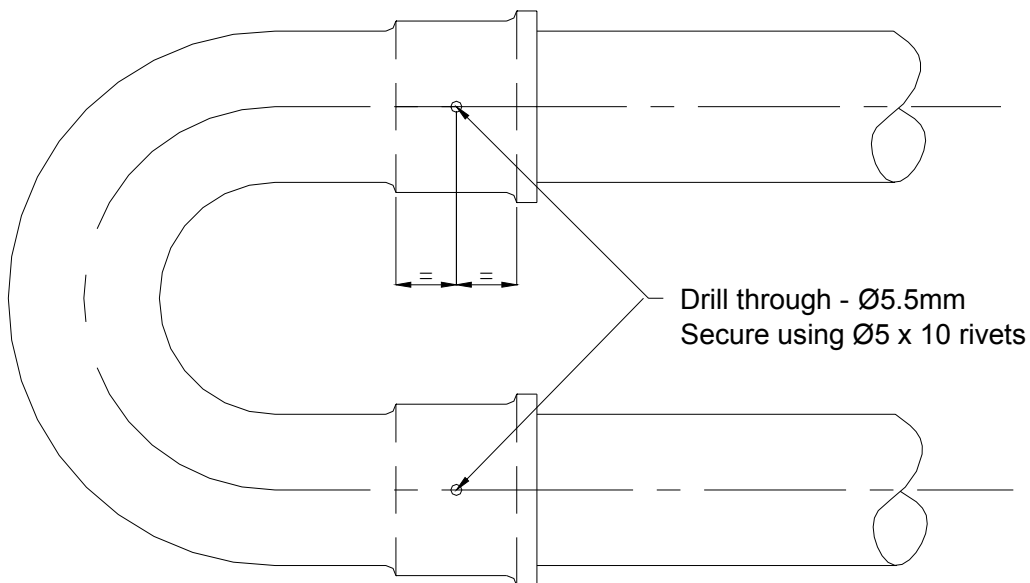

Fig. 22
- 6.4.2 Assemble the U Bend to the short Radiant Tubes, ensuring that the U Bend engages fully. Drill one Ø5.5mm hole through the U Bend and Radiant Tube in the upper surface of each leg of the U bend at a distance midway along the swaged portion of the U bend as shown in Fig 22. Rivet the U Bend to the Radiant Tube assemblies using the two Ø5 x 10 rivets provided (fastenings pack).